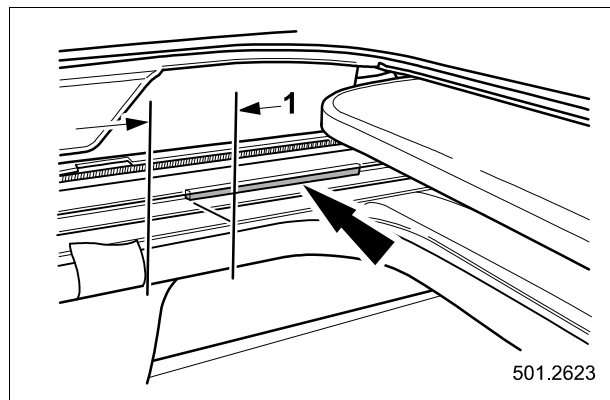

Fig. 2
- 10 Apply the Velcro strips into both the right and left roof opening panel shield tracks of the frame assembly. With the front edge of the Velcro 25mm behind the tape mark (see Fig. 2).